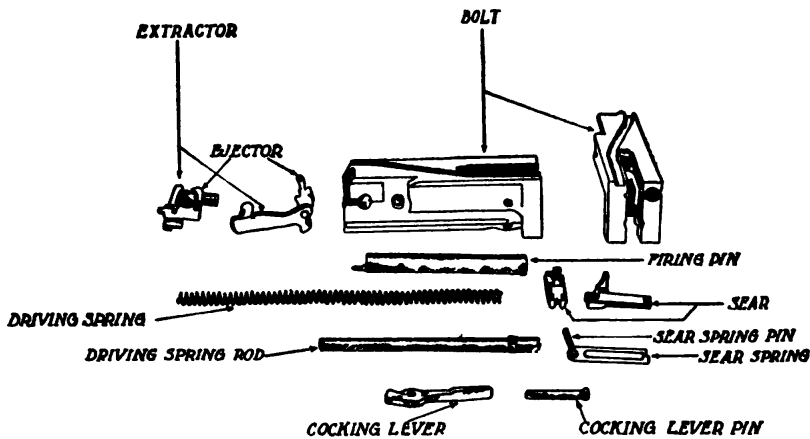

FIGURE 124.—Bolt group.
(1) Screw the barrel all the way into the barrel extension.
(2) Then unscrew it until the barrel-locking spring is in the marked notch.
(3) Place the belt feed lever stud over the cam groove in the bolt and close the cover.
**133. Detailed disassembly of bolt (fig. 124).—a.** Turn extractor up and remove it to the left.